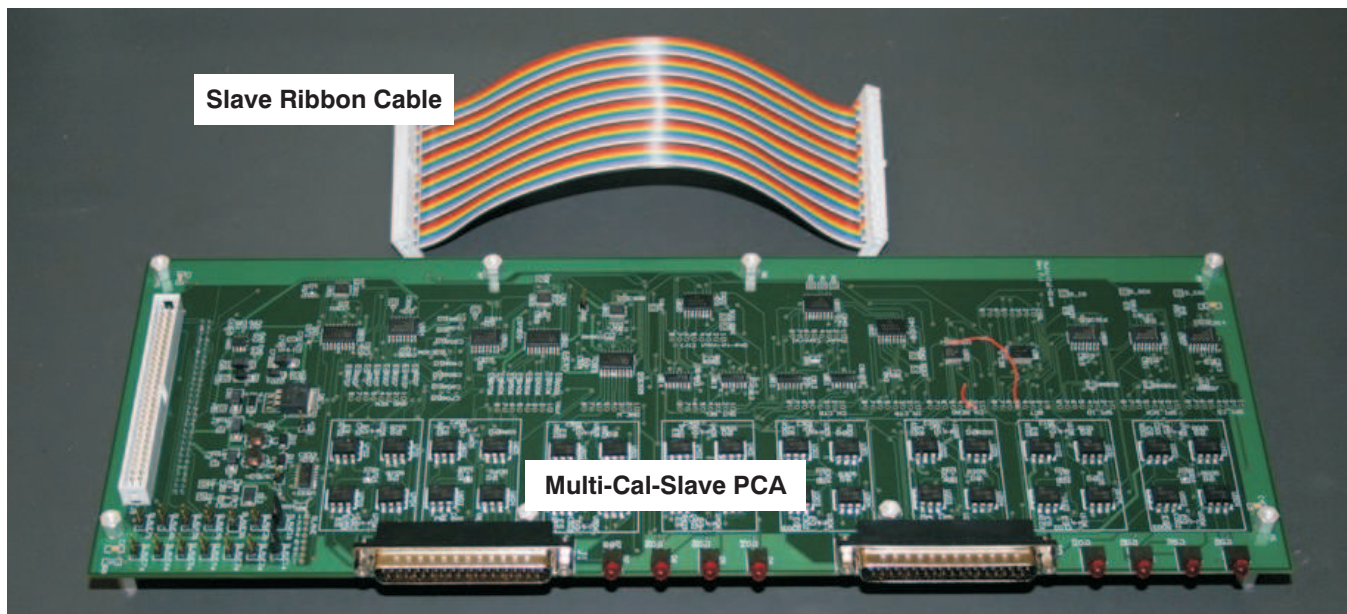

Figure 2. Multi-Cal-Slave Kit
Figure 2 shows the Multi-Cal-Slave kit. Each Multi-Cal-Slave kit enables you to expand the system by eight channels. For example, a Multi-Cal-Master kit and one Multi-Cal-Slave kit combine to form a 16-channel system. Seven Multi-Cal-Slave boards and a single Multi-Cal-Master combine to form a 64-channel system.
- **Multi-Cal-Slave PCB:** The slave board adds eight measurement channels to the system. The slave board is almost identical to the master board. The primary difference between the master and the slave is that the master connects to the USB DAQ Platform and the slave connects to the master via a ribbon cable, as shown in Figure 2.